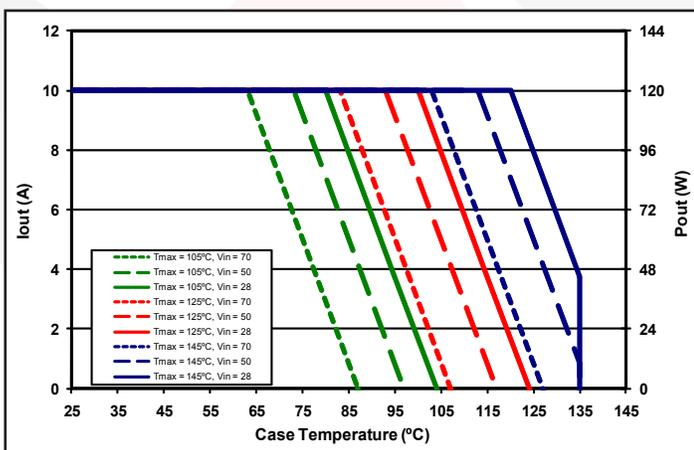

Figure 5: Output Current / Output Power derating curve as a function of Tcase and the Maximum desired power MOSFET junction temperature (see Note 14).
2. Derate output power to 50% of rater power at T_{case} = 135°C (see Figure 5). 135°C is above specified operating range.